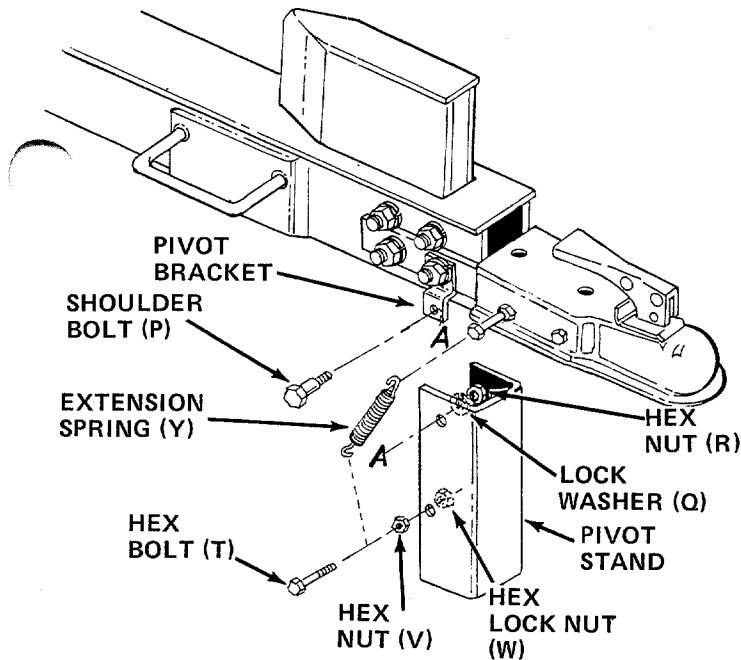

FIGURE 6
7. Thread hex nut (V) part way onto hex bolt (T). Secure to pivot stand with hex lock nut (W) as shown in figure 6.
8. Assemble the pivot stand to the pivot brackets with two shoulder bolts (P), lock washers (Q) and hex nuts (R).
9. Attach extension spring (Y) to long hex bolts on tow hitch and pivot stand. See figure 6.